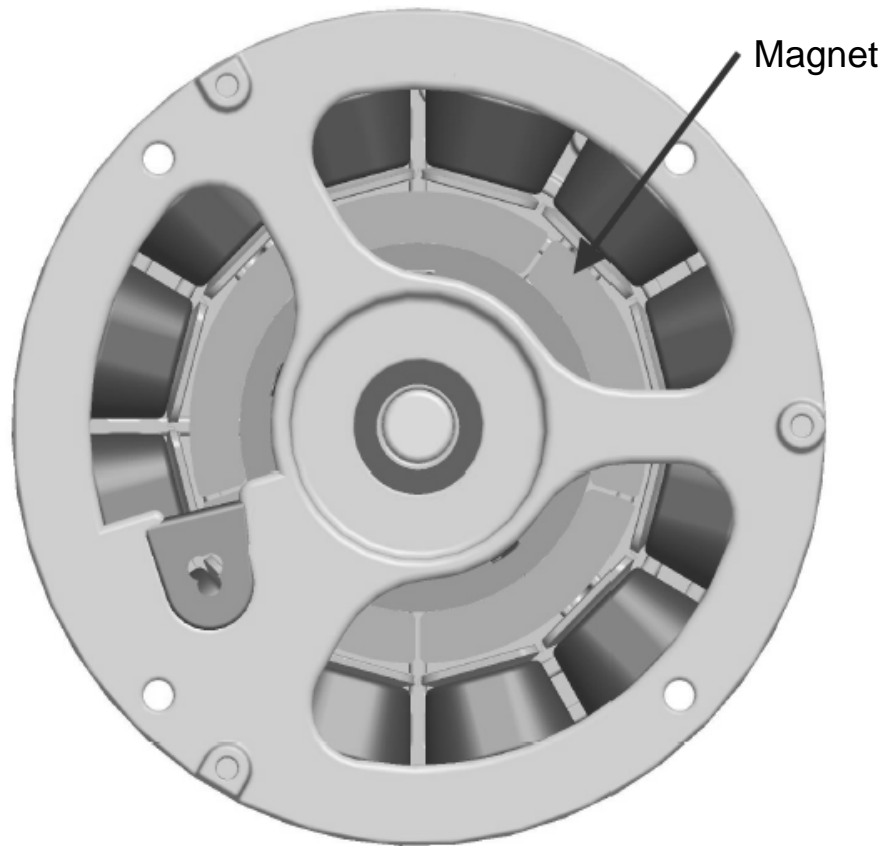

Figure 20
8. Inspect the magnets through the back side of motor for broken or chipped magnets on the rotor core [Figure 20].